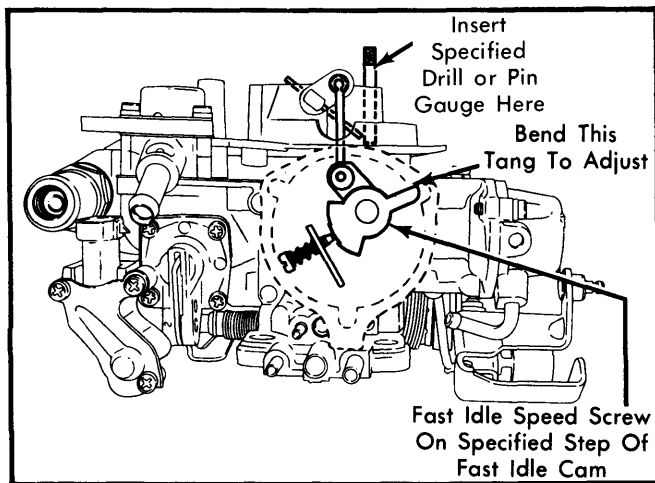

Fig. 3 Adjusting Fast Idle Cam Position
2) With clearance correct, choke lever tang should just contact lever on fast idle cam. To adjust, bend tang. See Fig. 3.